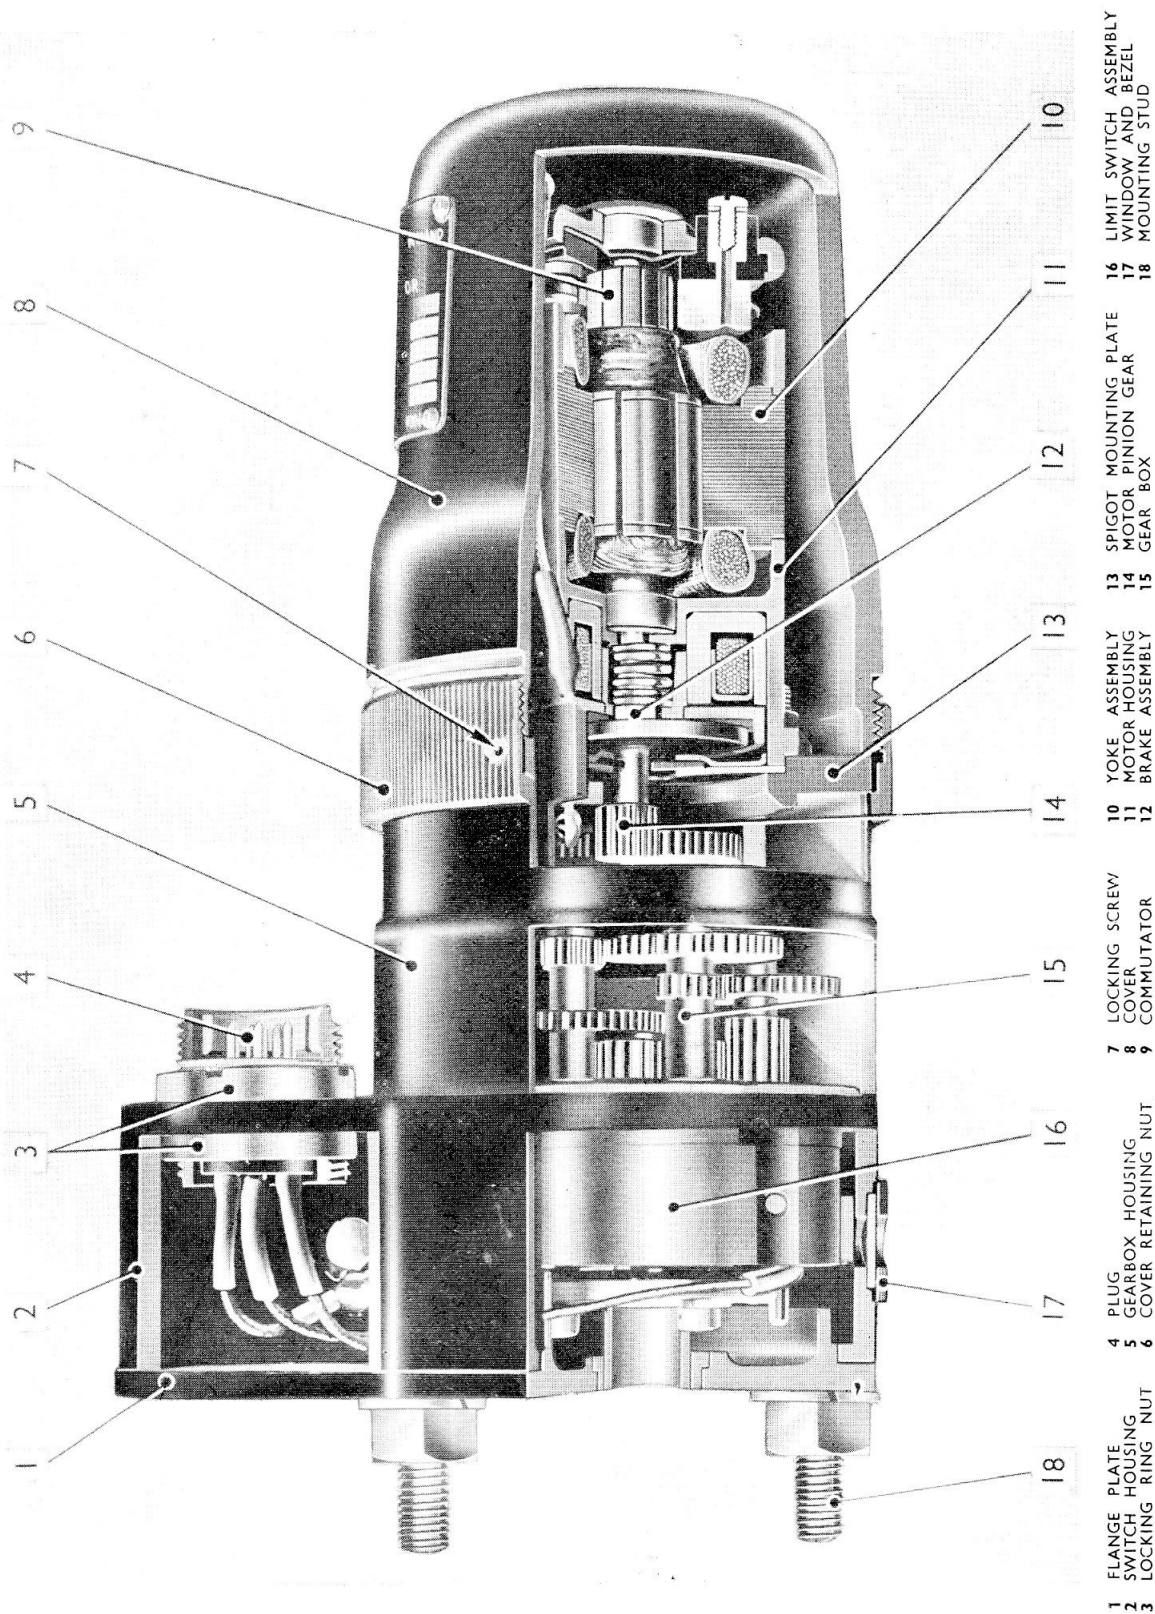

Fig. 2. Sectional view of actuator
2. A sectional view of the actuator, Type CZ72256, is given in fig. 2. The general construction is as described in the Appendix on Panther actuators, to which reference should be made for further information.